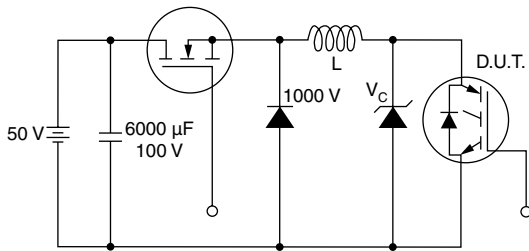

Fig. 19 - Clamped Inductive Load Test Circuit
(2) $V_{CC} = 80\%$ (V_{CES}), $V_{GE} = 20\text{ V}$, $L = 10\text{ }\mu\text{H}$, $R_G = 23\text{ }\Omega$ (see fig. 19)